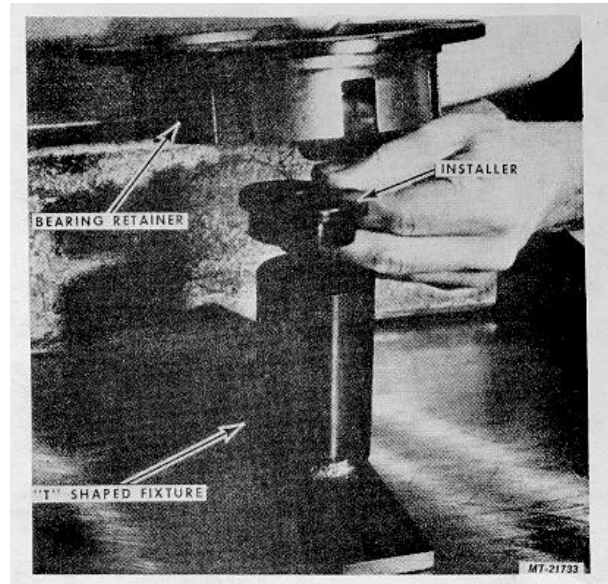

Fig. 41
4. Support Bearing Retainer with Installer SE-2782-2 located in the bearing bore of the Bearing Retainer and over "T" shaped fixture SE-2782-5, Fig. 41.